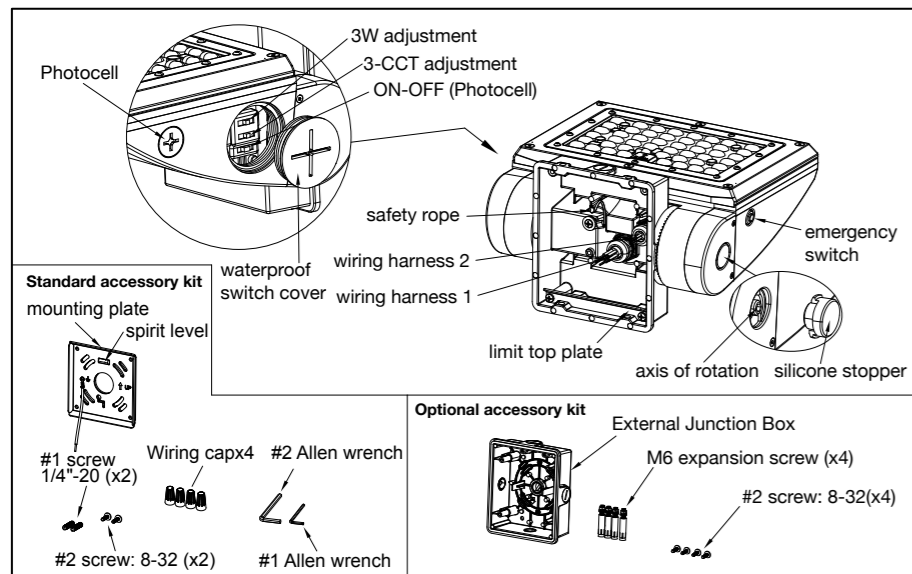

Figure 1
10. The lamps are installed by J-BOX on the wall by default. If you need to install on the wall surface, you need to purchase the relevant installation accessories separately (optional accessories package in Figure 1)
2. Three levels of power can be adjusted (Small: 30W/50W/65W; Medium 60W/80W/100W); three levels of color temperature can be adjusted (3000K/4000K/5000K); as shown in Figure 1, it can be seen when the waterproof switch cover is opened;
3. Photocell: When the ambient luminescence is lower than 15lx and has been below the luminance value for 45s, it will be automatically turned on; when the ambient illuminance is higher than 200lx and has been above the luminance value for 45s, it will be automatically turned off; therefore, when installing the lamp, it should be considered that the Photocell should not be placed in an environment with long-term light exposure, otherwise the ON/OFF function will be invalid. The ON/OFF function can also be freely selected by the customer according to the needs, and it can be adjusted by opening the waterproof switch cover, as shown in Figure 1.